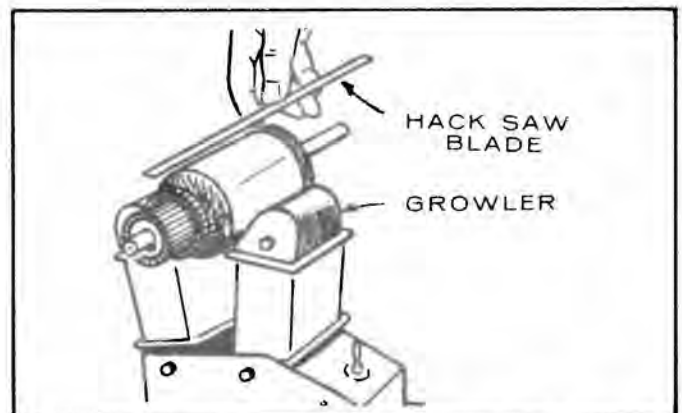

FIGURE 18. TESTING ARMATURE FOR SHORT CIRCUITS
2. **Testing Armature for a Short Circuit:** Use a growler for locating shorts in the armature. Place armature in growler and hold a thin steel blade (e.g. hacksaw blade) parallel to the core and just above it while slowly rotating armature in growler. A shorted armature will cause the blade to vibrate and be attracted to the core. If armature is shorted, replace with a new one (Figure 18).